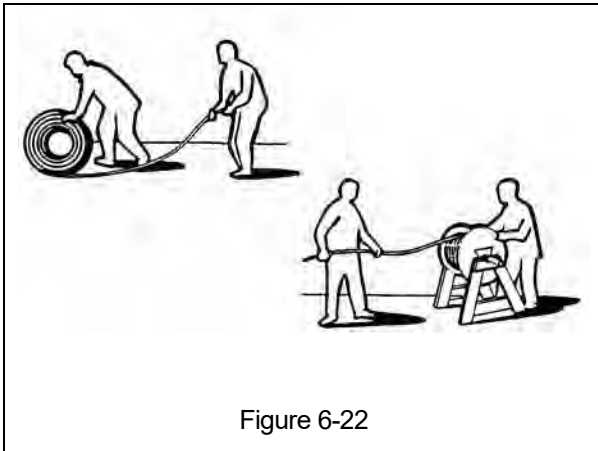

Figure 6-22
- 3) **⚠ WARNING** ALWAYS unwind the roll of the new Wire Rope without kinks or bends (see Figure 6-22).
- 4) Examine the Wire Rope Guide Ring Halves (P) and (Q) and the Drum after cleaning/degreasing thoroughly.
- 5) Verify proper fit of the Wire Rope Guide Ring Halves (P) and (Q) with the Drum, matching up the respective grooves and check that there is no excessive clearance. Check for pointed or sharp crests and heavy wear and tear. Where necessary assess the need for replacing the wire rope guides and the Drum.